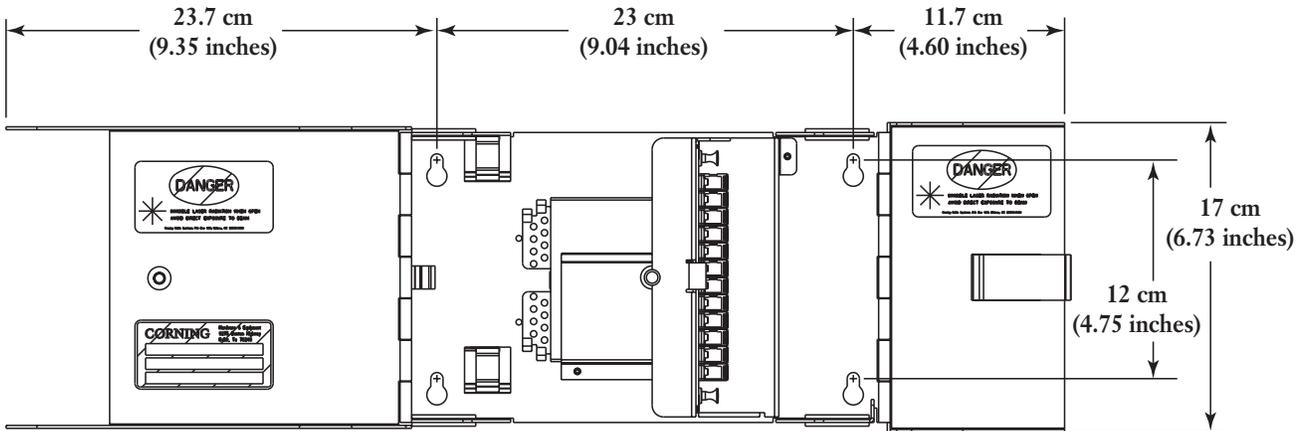

Figure 3 — Hole Location
- Step 1** Mark the location for the mounting screws as shown in Figure 3. Open the doors and locate the mounting holes on the backplate. Mark the wall with a pencil. (Mounting hardware is not provided.)
IMPORTANT: *The additional peripheral dimensions shown in Figure 3 are clearance distances and are required to prevent interference when the access doors of the unit are opened.*